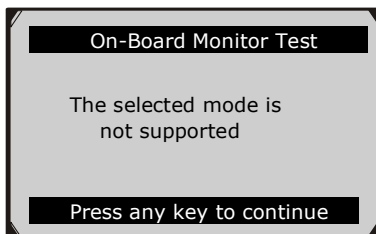

Figure 6-28
- If the vehicle under test does not support the mode, an advisory message will be displayed on the screen. (Figure 6-28)